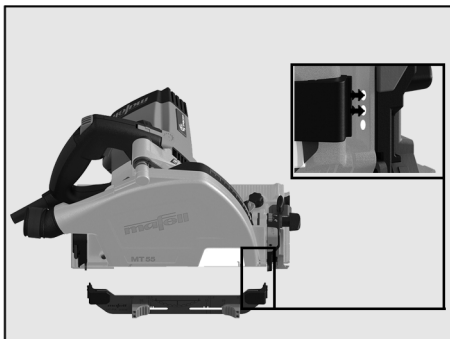

Fig. 27: Clamping the position indicator – working without a guide rail
- Use the two upper holes without a guide rail (see Fig. 27).